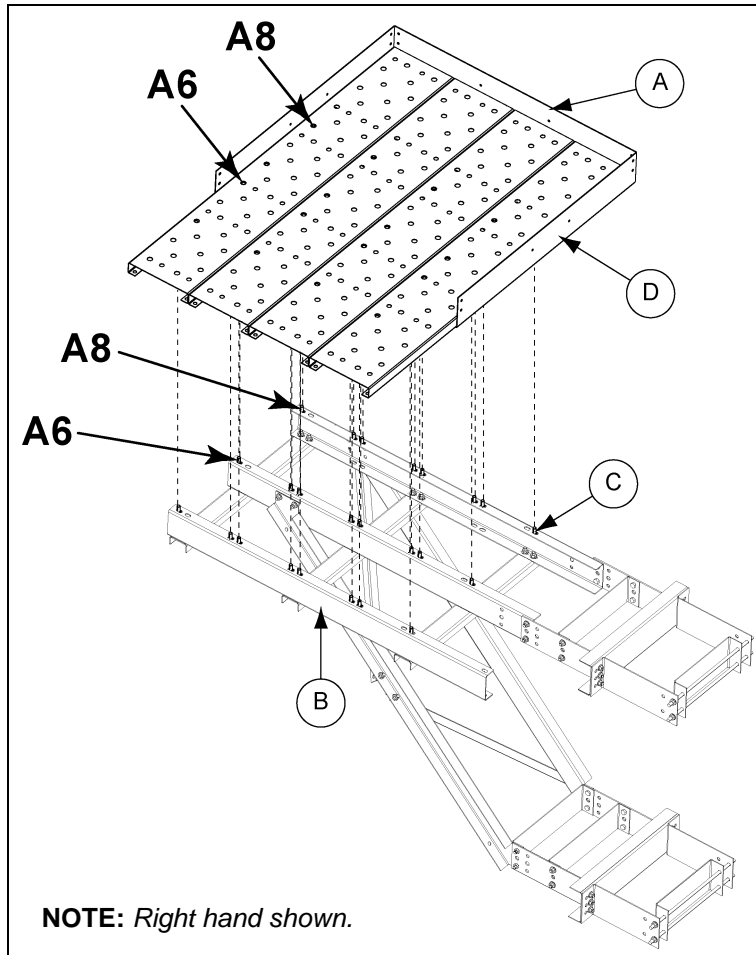

Figure 10H
2. Install platform decking weldment to the platform support channels using twenty four (24) 1/2" x 1" bolt and nuts. (See Figure 10H.)